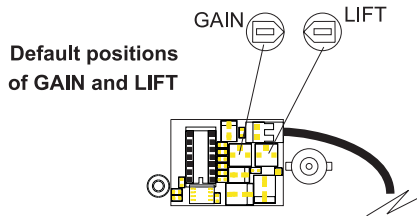

Figure 5. Default positions of Gain and Lift
- Adjust the GAIN and LIFT pots (figure 5) using an insulated pot trimmer until you either have 1V pk-pk video or an acceptable picture at your monitor.